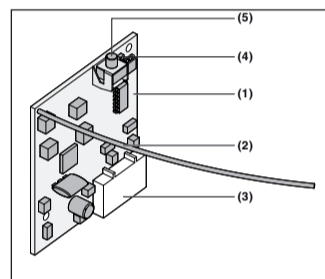

Fig. 1
2.1 Receptor BHE120 (fig. 1)
2.1 Ricevitore BHE120 (fig. 1)